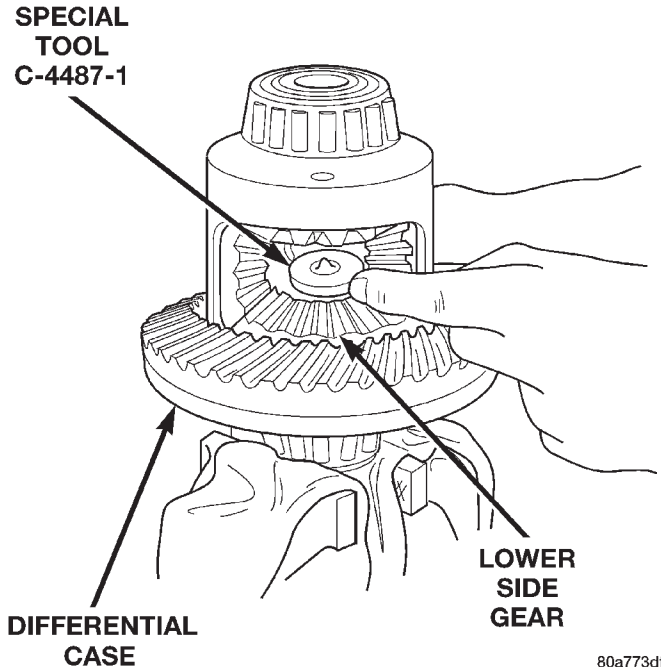
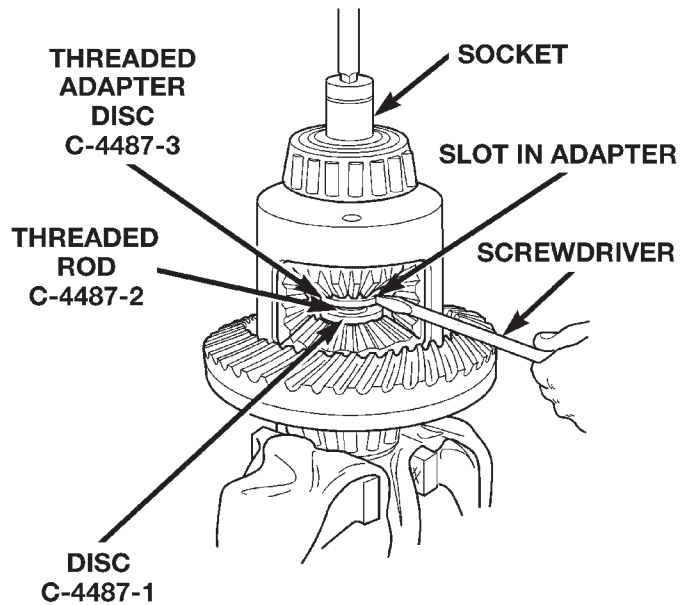

Fig. 48 Step Plate Tool Installation
Fig. 49 Threaded Adapter Installation
(6) Install and lubricate Step Plate C-4487-1 (Fig. 48).
(7) Assemble Threaded Adapter C-4487-3 into top side gear. Thread Forcing Screw C-4487-2 into adapter until it becomes centered in adapter plate.
(8) Position a small screw driver in slot of Threaded Adapter C-4487-3 (Fig. 49) to prevent adapter from turning.